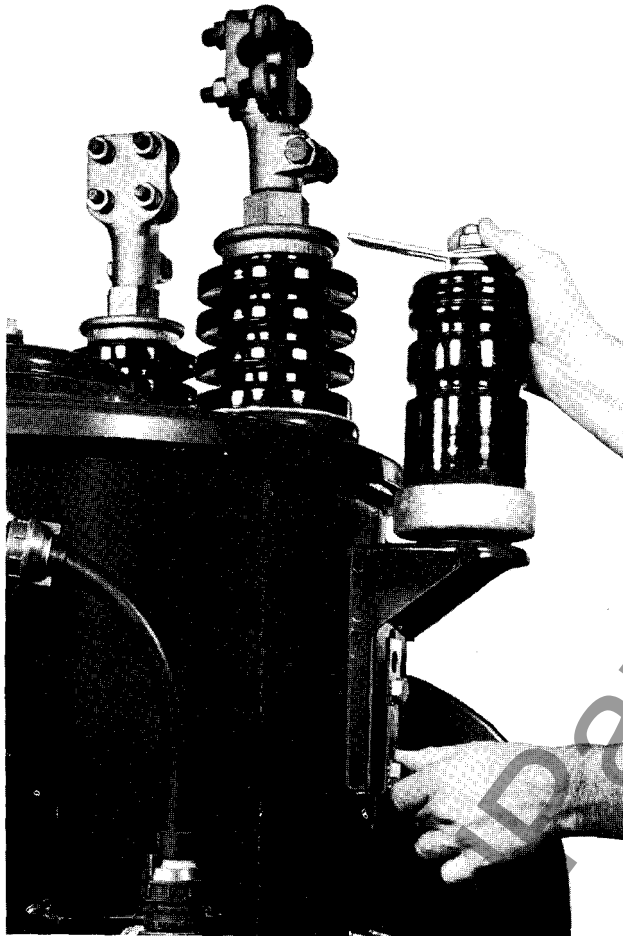

Fig. 5 - Valve Type Arrester
2. If lightning arresters are furnished, the air gap should be set at the spacing stenciled on the arrester porcelain. See Table II for gap settings when mounting the arresters on the tank. Adjustments are provided in both the vertical and horizontal directions. See Figure 5.